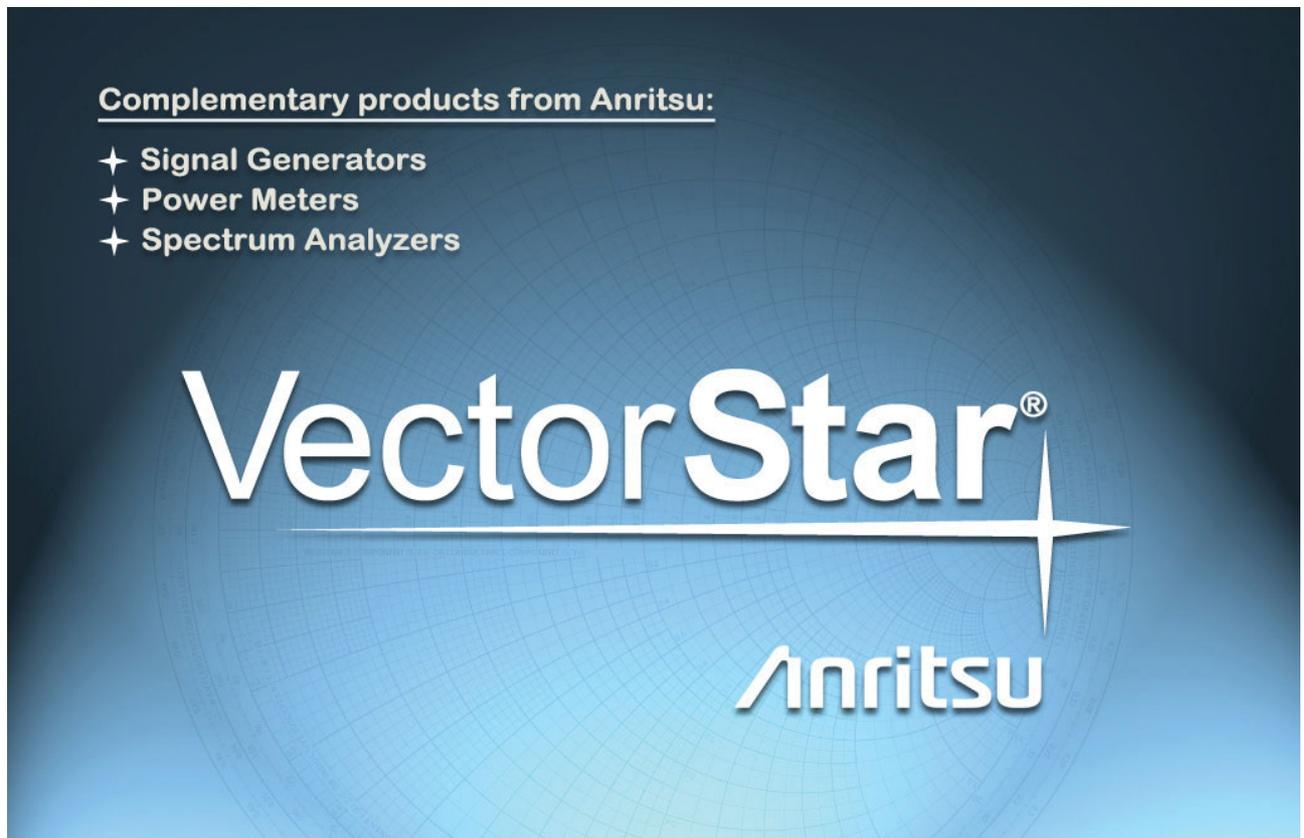

Figure 2-5. MS4640A Series VNA Startup Splash Screen
1. Press and hold the front panel **Standby/Operate key** for at least one second. The orange **Standby LED** turns off and the green **Operate LED** illuminates. The VectorStar VNA information splash screen is displayed during the change to operate mode process and is shown below in Figure 2-5, “MS4640A Series VNA Startup Splash Screen”.